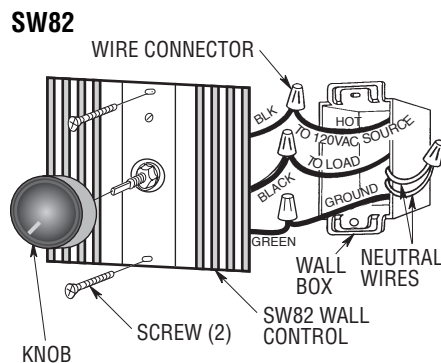

Figure 3
6. Securely connect one BLACK control wire to the (BLACK or RED) load wire from the ceiling fans with a wire connector (supplied) (Figure 3).
9. Carefully install the SW82 wall control into the electrical switch box using the installation screws supplied. Do not install the cover plate. Reinstall the knob to the wall control (Figure 3).